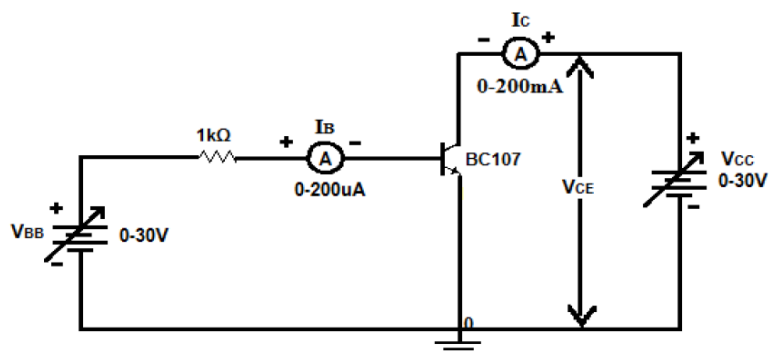

Figure 6 Practical Output Characteristic
1. Connect the circuit as shown in Figure 6. Adjust all the knobs of the power supply to their minimum positions before switching the supply on.